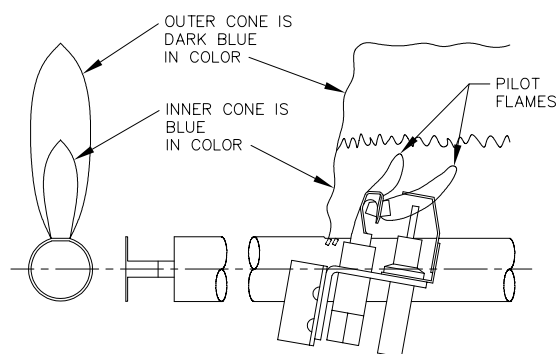

Figure 10.1: Pilot and Main Burner Flame
3. Check the pilot and main burner flame. See Figure 10.1. The pilot should provide a steady flame enveloping $3/8"$ to $1/2"$ (10 mm to 13 mm) of the flame sensor. If required, adjust the pilot as stated in the gas valve manufacturer's instructions. The main burner flame inner cone should be approximately $1-1/2"$ (40 mm) high and should have a very sharp, blue color characteristic.